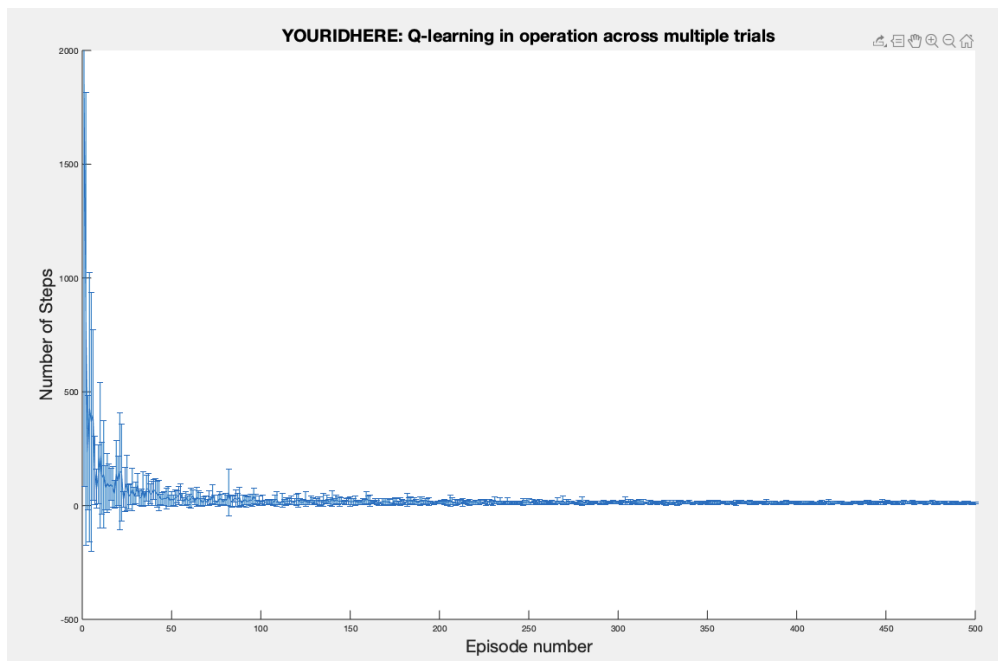

Figure 6. Typical example of mean and SD of steps plotted against episode.
- Plot the mean and standard deviation across trials of the steps taken against episodes. You should get a plot like that shown in Fig. 6. Describe what you find.